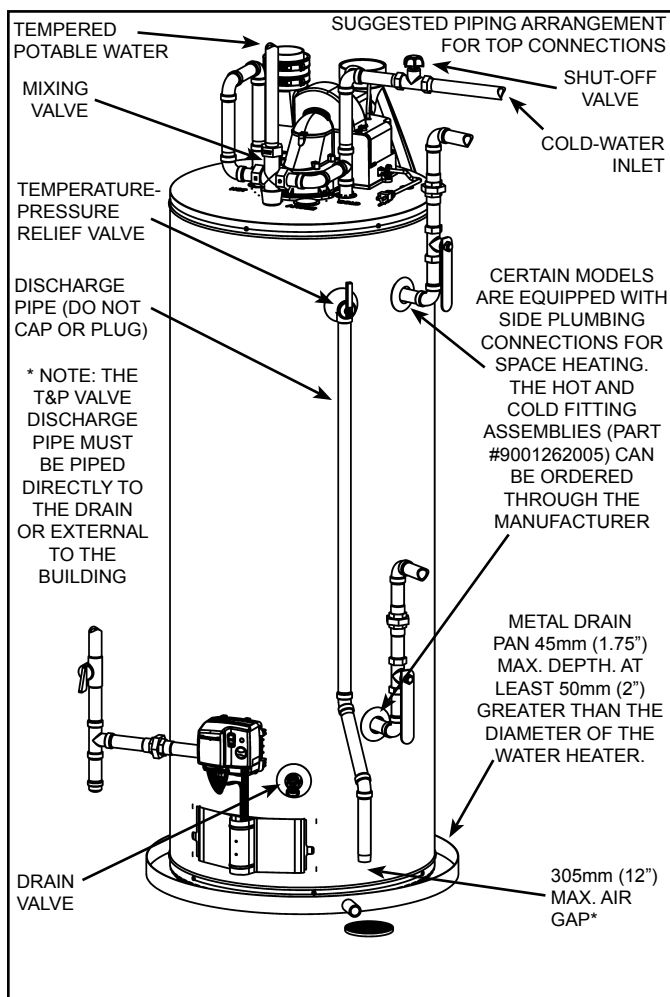
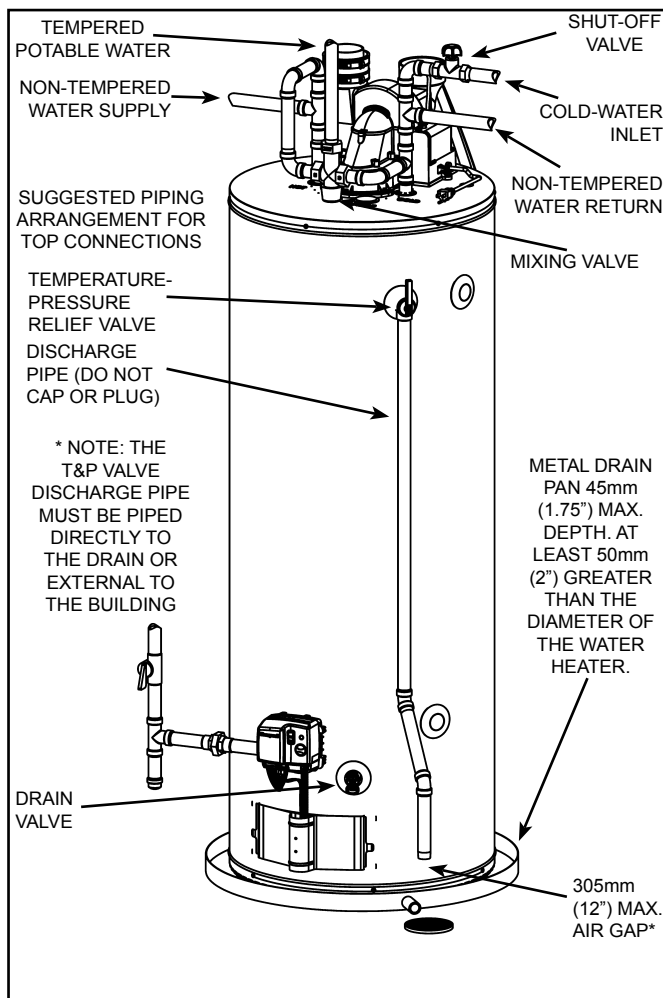

Figure 7
Figure 8
Models equipped with Combo Heating capabilities have the two side plumbing taps plugged (item 7 and item 10 in Figure 1 and see also Figure 7 & Figure 8). If the heater is to be installed in a Combo Heating application, these plugs must be removed.
In addition to using lowest possible temperature setting that satisfies demand of application, a mixing valve should be installed at water heater (see Figure 7 & Figure 8) or at hot-water taps to further reduce system water temperature. Mixing valves are available at plumbing supply stores. Consult a Qualified Installer or Service Agency. Follow mixing valve manufacturer's instructions for installation of the valves. Before changing the factory setting on the thermostat, read the "Operating The Temperature Control System" section in this manual.